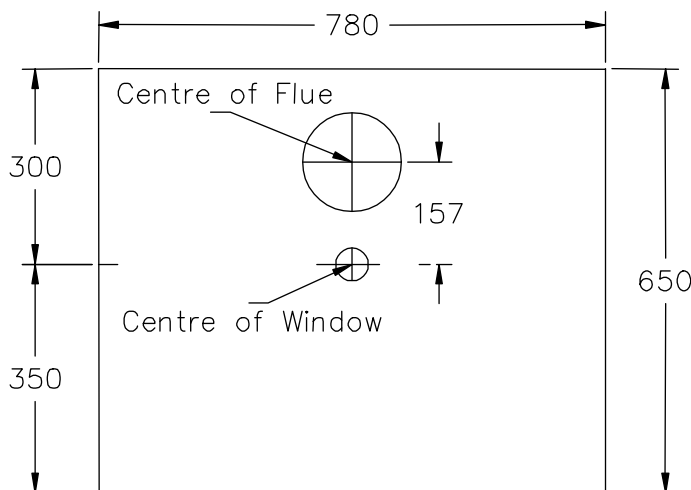

Figure 5
- 2 Select a position for the appliance and the height required from the centre of the glass panel to the floor. Cut a hole in the inner leaf of the cavity wall to the dimensions shown in Figure 5. A lintel may be required to support the masonry over the opening. Any cavity wall insulation should be held back away from the appliance. Drill a 152mm diameter hole in the outer leaf of the cavity wall for the flue 157mm above the position of the centre of the glass panel. Ensure that the centre of the flue is at least 700mm above finished floor level.